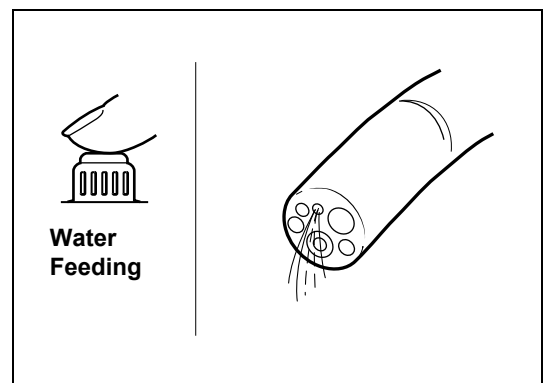

Figure 3.4
- 4 Fully press the air/water valve of the scope and make sure water comes out of the distal end of the scope. (Refer to Figure 3.4)